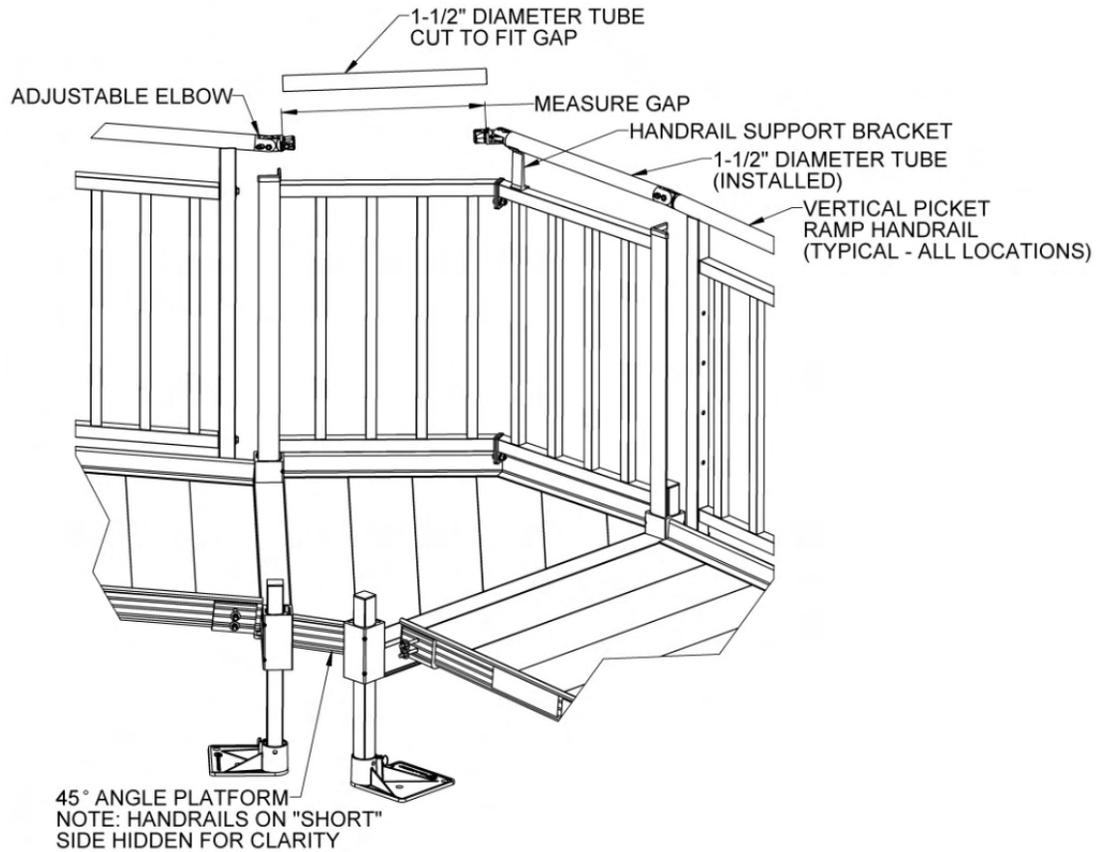

FIG. 4.19
- 4.6.22. Install an adjustable elbow in the last open ramp handrail and align with the adjustable elbow at the split between the Vertical Picket panels. Measure the gap between the large round faces, cut a 1-1/2" diameter handrail tube to fit the gap, and install the handrail tube (FIG. 4.19). The procedure for installing the 1-1/2" diameter handrail tubes and adjustable elbows is the same as the installing the closure top rail.